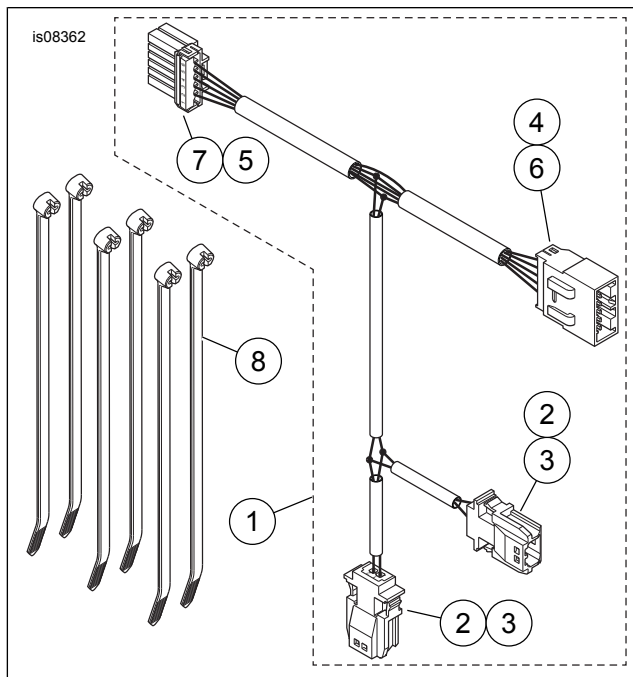

Figure 1. Service Parts, LED Bullet Fog Lamp Harness
See Figure 1 and Table 1.
4. See Figure 1. Route the two harness legs and connectors (2) downward to the base of the front downtube. Plug the harness into the fog lamps.
5. Coil up any excess wire. Use cable straps (4) to secure the harness legs to the engine guard.